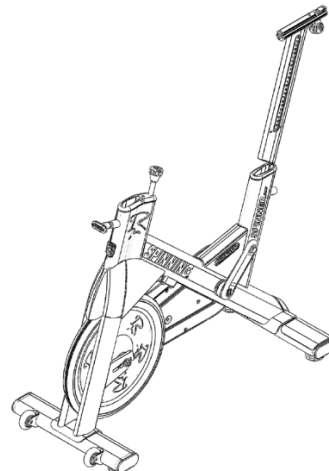

Fig. 15
15. Locate the seat post and insert it into the appropriate location on the Spinner frame (Fig. 15).